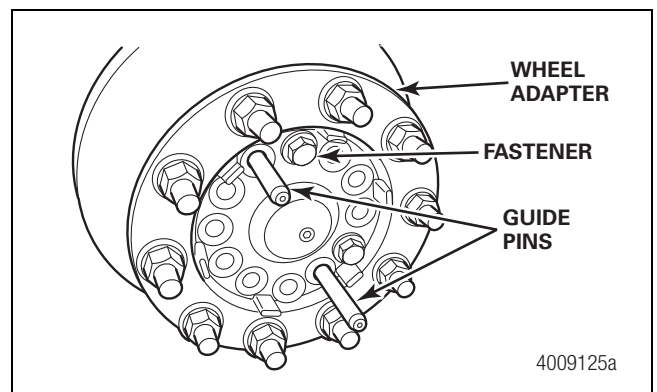

Figure 6.27
9. Install the wheel adapter onto the rotor. Figure 6.27.